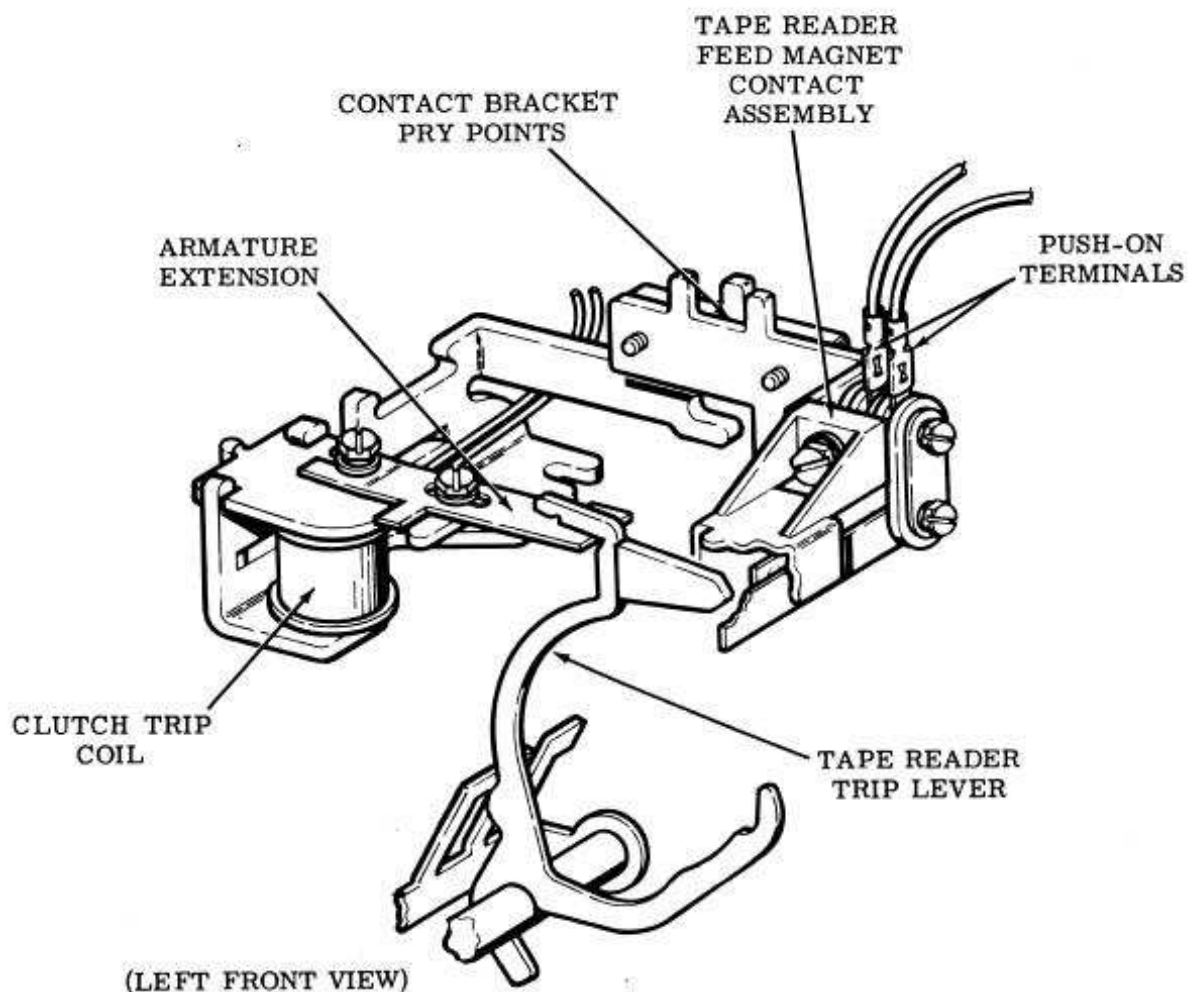

Figure 4 - Clutch Trip Magnet Assembly
- Note: Reference Figure 4.
- (1) Remove two push-on TP182726 terminals of the tape reader cable.
- (2) Remove two TP152893 tape reader feed magnet contact bracket mounting screws, TP104752 flat washers, and TP110743 lockwashers.
- (3) Remove the tape reader feed magnet contact assembly.
- (4) To replace the tape reader feed magnet contact assembly, reverse procedure used to remove it.